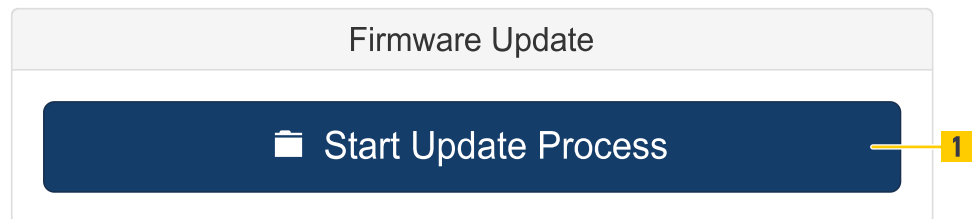

Fig. 142: Firmware Update
- The firmware can be updated with a firmware file provided by Hella Aglaia. To start the update click Start Update Process (Fig. 142 /1) and select the firmware file (*.tar) on the PC.